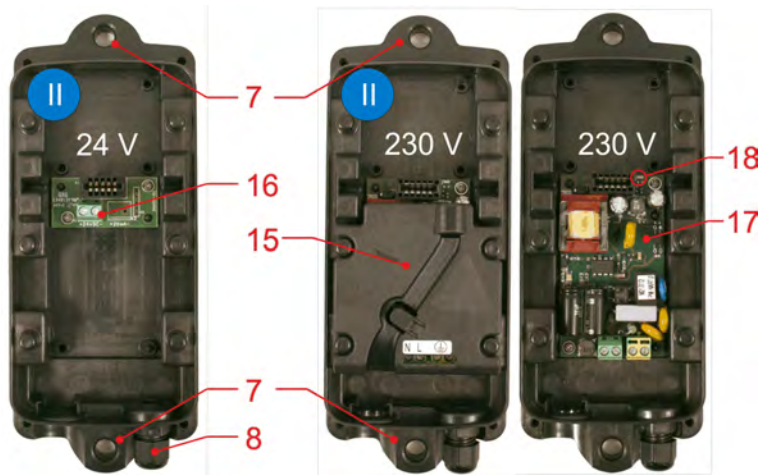

Fig. 3: Back cover module
The protective cover (↪ Chapter 4 'Functional description' on page 21, Fig. 3, pos. 15) may NOT be removed!
The protective cover (↪ Chapter 4 'Functional description' on page 21, Fig. 3, pos. 15) **may NOT be removed!**